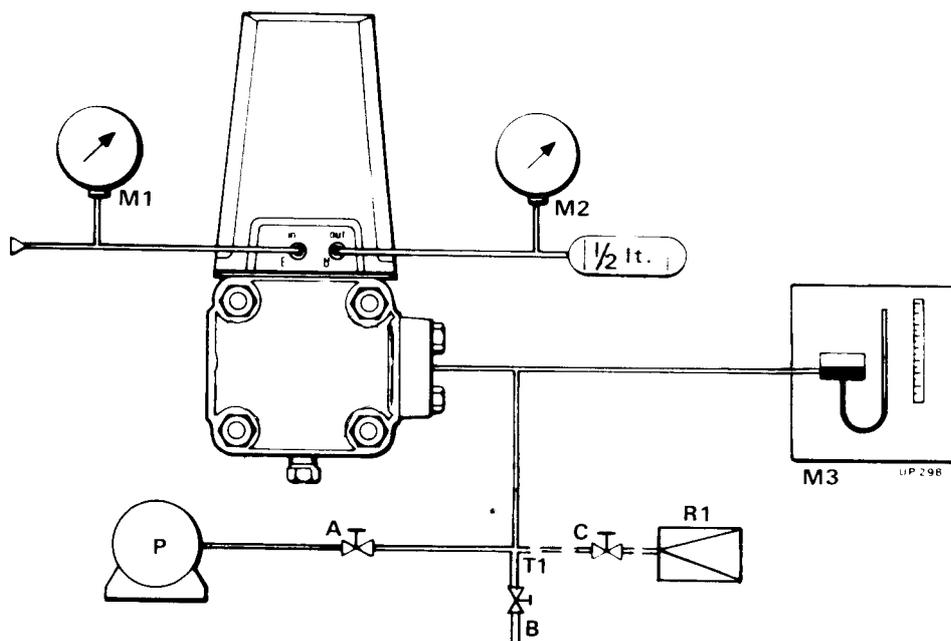

Fig. 11
The pneumatic circuit should then be connected up as shown in fig. 11.
Zero setting (Fig. 11)
Determination of the span (Fig. 11)
- fit the zero elevation unit to the transmitter as shown in fig. 6. Check that the manometer M₃ (fig. 11) has a range suited to the value of elevation to be set on the transmitter.
Alignment of the measuring membrane (fig. 11)
- a) Build up the circuit as shown in figure 11.